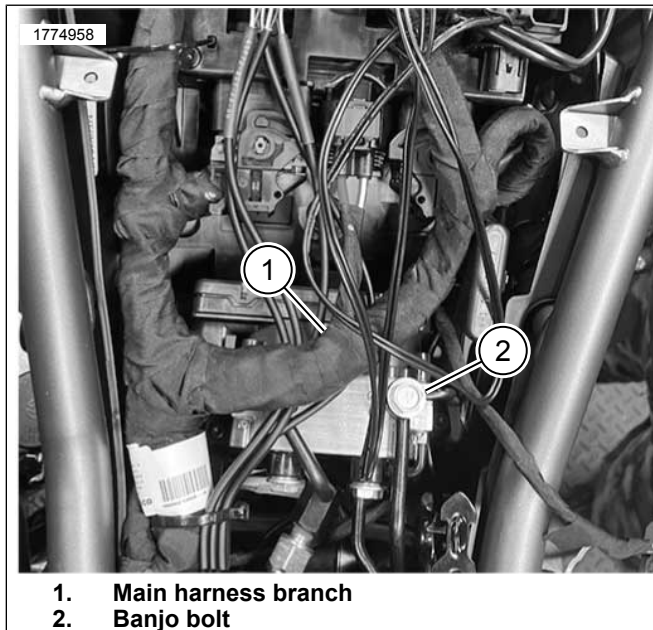

Figure 2. Main Harness Branch
- See Figure 2. Inspect main harness branch as it routes past the Electro Hydraulic Control Unit (EHCU). If routed on top of the banjo bolt, there is potential that it can be damaged after the seat is installed. Manipulate the main harness as needed to obtain clearance with the EHCU unit.